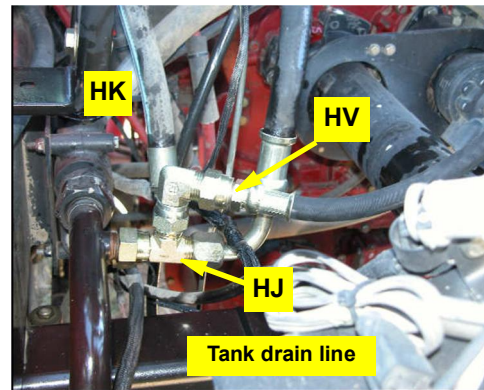

Figure 6b: Tank drain hose connected at run tee
- b. Install elbow adapter **HK** at the branch of the run tee **HJ** installed on the steel tank drain line at step 4b. Connect the tank drain hose **HV** to adapter **HK** (Figure 6b).